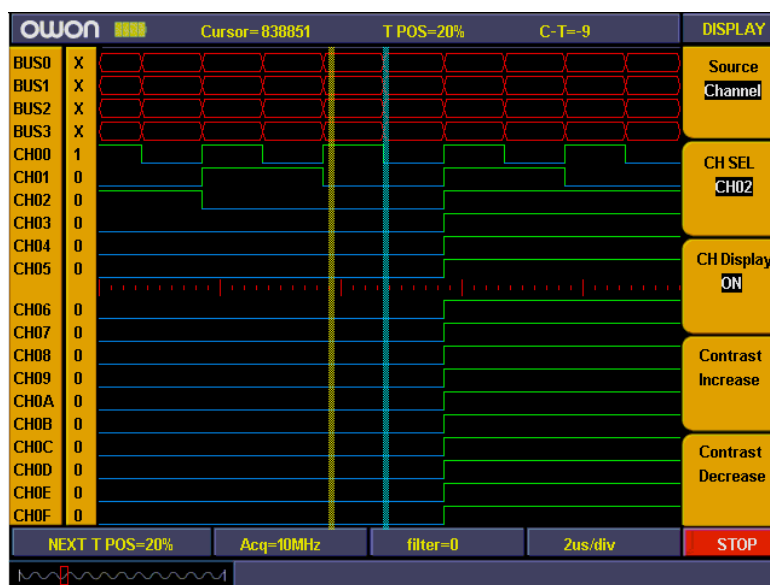

Fig.13
4. Press "**F3**" and set the signal sources as "**ON**". Repeat operation of steps 3.4 and set CH01, CH02 as "**ON**" and CH03-CH0F as "**OFF**". Refer to Fig.13
Now display panel only show CH00、CH01、CH02 and others channel and bus are all off. Ref to Fig.13